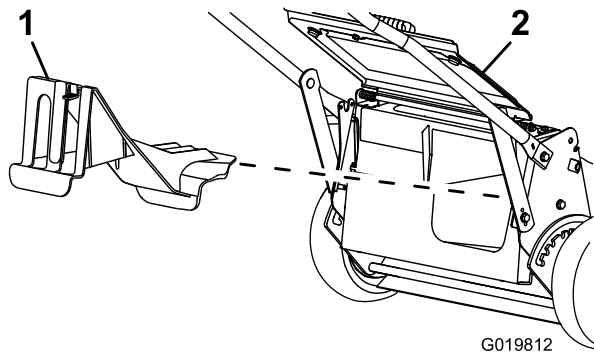

Figure 24
- If the rear-discharge plug is not installed, grip it by the handle, raise the rear deflector, and insert it into the rear-discharge chute until the latch locks into place; refer to Figure 24.
2. Remove the rear-discharge plug by pulling down on the latch with your thumb and pulling the plug out from the machine (Figure 24).